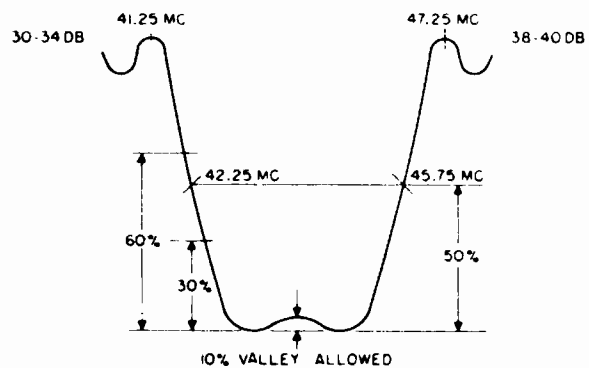

FIGURE 10. MIXER RESPONSE CURVE
14. Adjust the mixer coils L-25 & L-26 to the response and markers shown in Figure 10. The mixer coils should be tuned so the slugs are toward the outside of the coils (toward the chassis). L-25 affects the high side of the curve, while L-26 affects the tilt.
NOTE: It is important that the 41.25 mc and the 47.25 mc carriers be attenuated as much as shown in Figure 10. To calculate, connect an AM generator directly to the mixer grid (pin 2 of V-2) and a VTVM across the detector load resistor R-46. Take voltage readings at 41.25 mc, 44 mc, and 47.25 mc and divide per following formula: